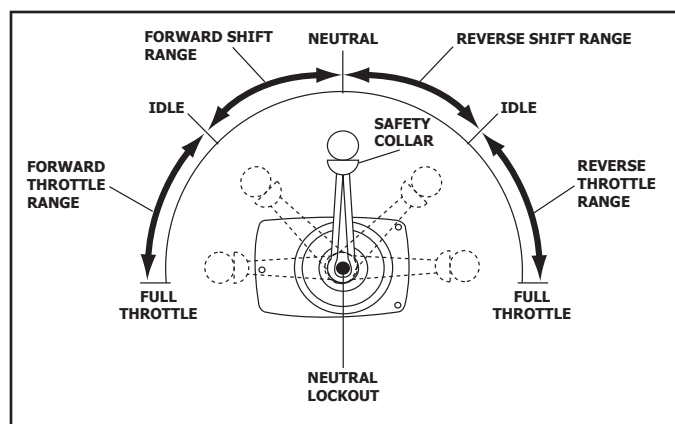

Figure 5-3 Typical Throttle / Shift Position Settings
- Do not pump or open the throttle when starting the engine (Figure 5-3). The ECM will automatically regulate the fuel and control desired idle speed.
- In the event the engine becomes flooded,** ensure the Neutral Lockout is engaged and move the throttle lever to a 100% open position (Figure 5-3). At this throttle position, the ECM will command the injectors to deliver no fuel during engine cranking. When the engine starts, return the throttle lever back to the idle position.